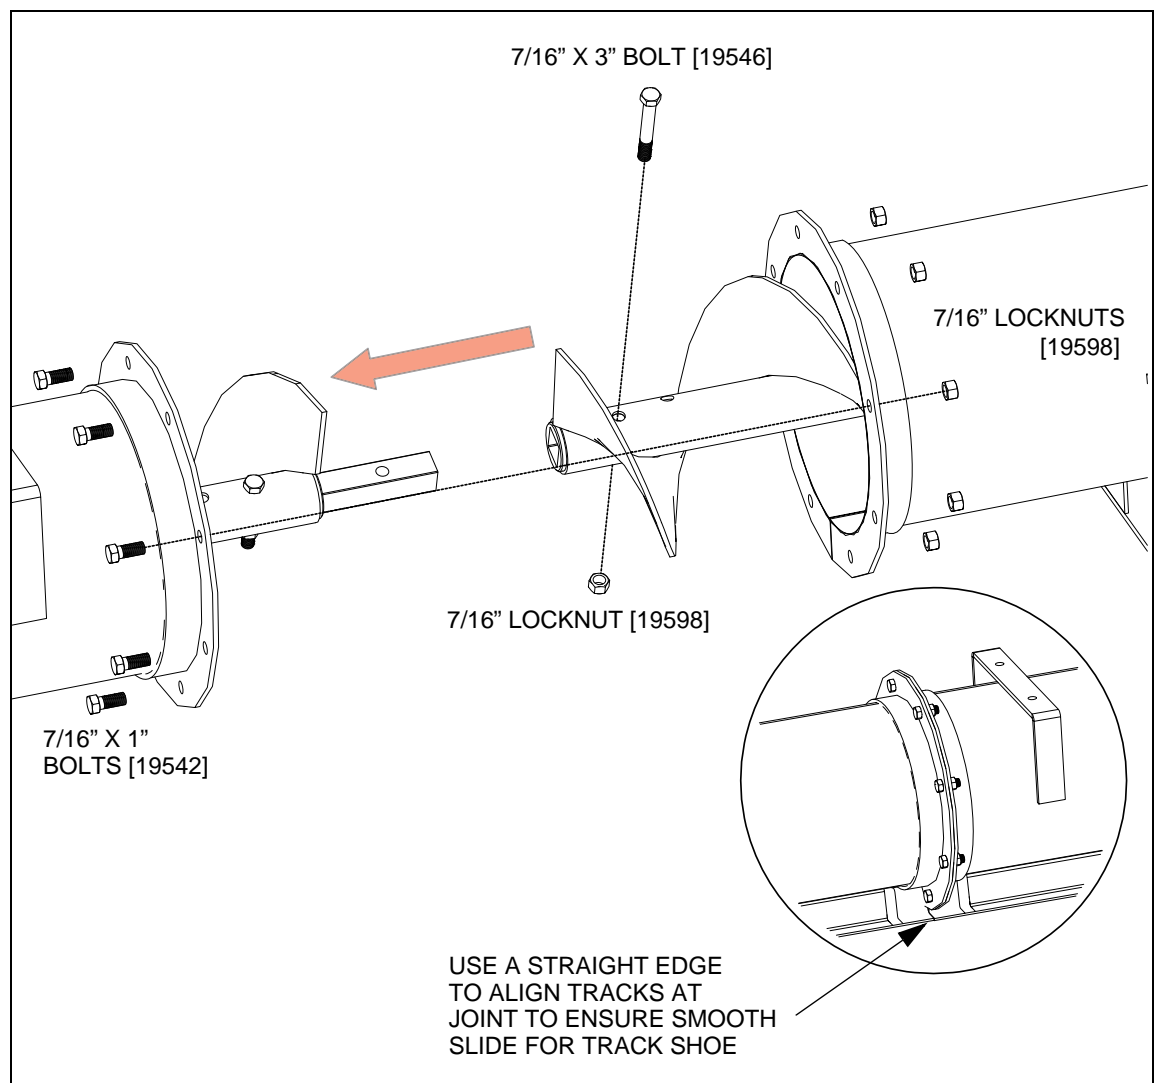

Figure 3.7 Connecting Auger Tubes Sections and Flights
1. Bolt tube sections together (see Figure 3.7 for details), working from the spout end (upper tube) toward the discharge end (lower tube):